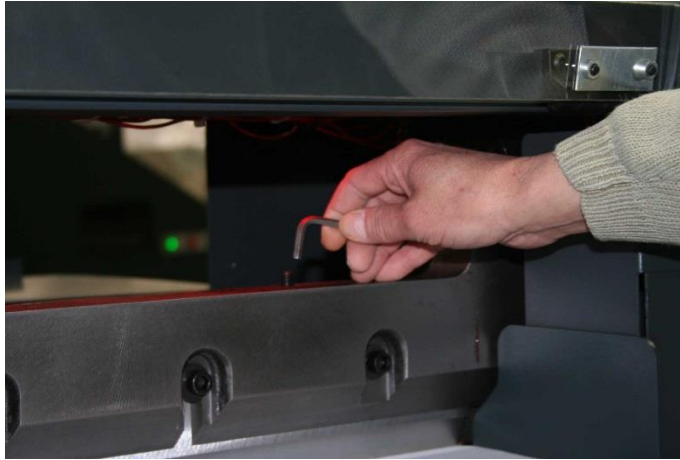

Figure 18
13. Turn the knife adjusters down evenly, a small distance at a time, until the knife cuts through the bottom sheet of paper the entire length of the cut stick (Figure 18). Turning the screws down evenly prevents uneven wear on the knife and cut stick.